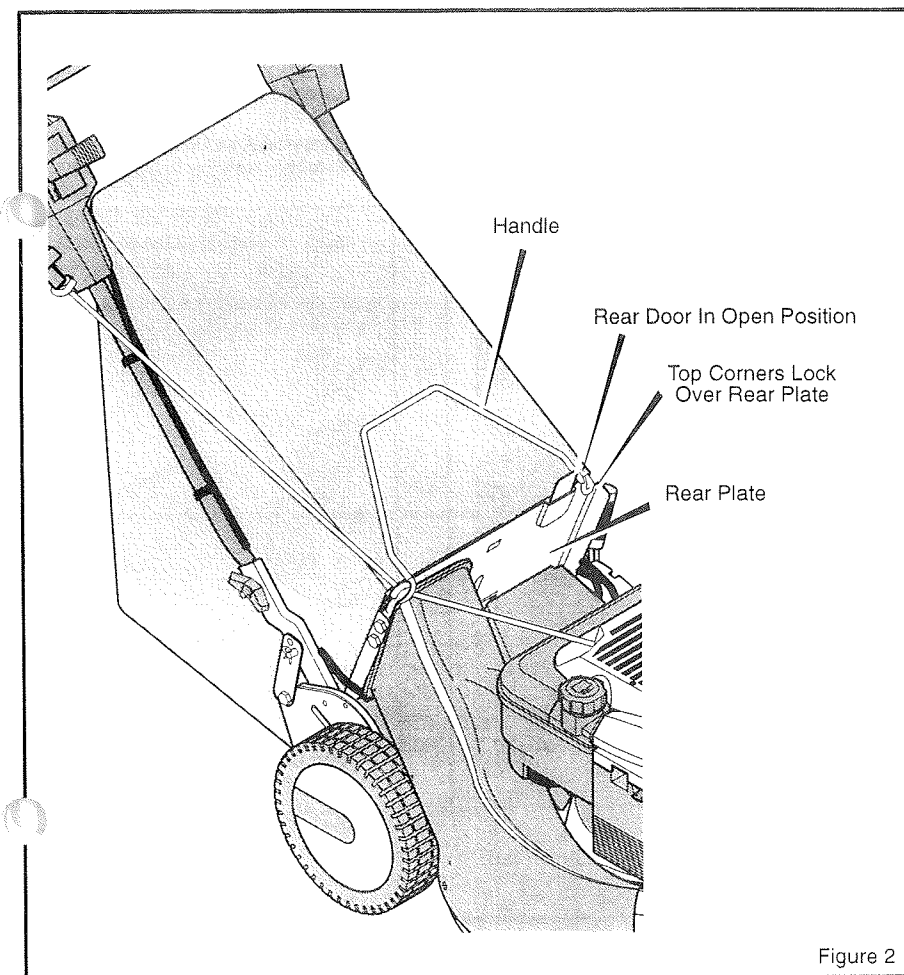
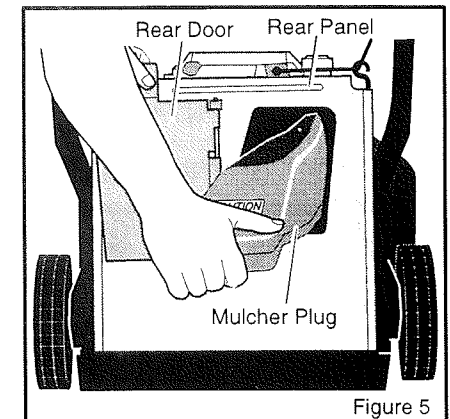

Figure 2
Figure 5
1. Hold the **handle** on top of the grass bag. Open the **rear door** and remove the mulcher plug (Figure 5). Mount the grass bag to the **rear plate** (Figure 2). Make sure the **top corners** of the frame assembly lock over the **rear plate**.
2. Remove the mulcher plug from the discharge opening (Figure 5).